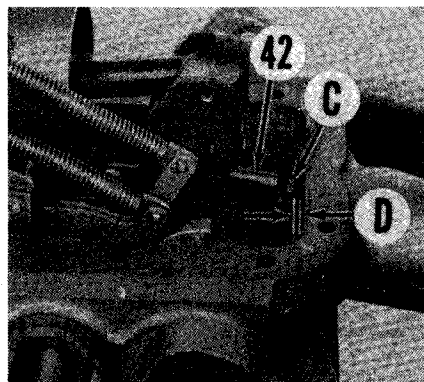

Fig. 218—Adjust draft control rod (42) so clearance (D) between cap screw (C) and lift cover casting is 5.84 mm (0.230 inch).
219. DRAFT CONTROL ROD. To adjust draft control rod (42—Fig. 218), move draft control lever to fully "UP" position. Be sure draft control rod is contacting master control spring plunger, then adjust control rod cap screw (C) until clearance (D) between head of screw